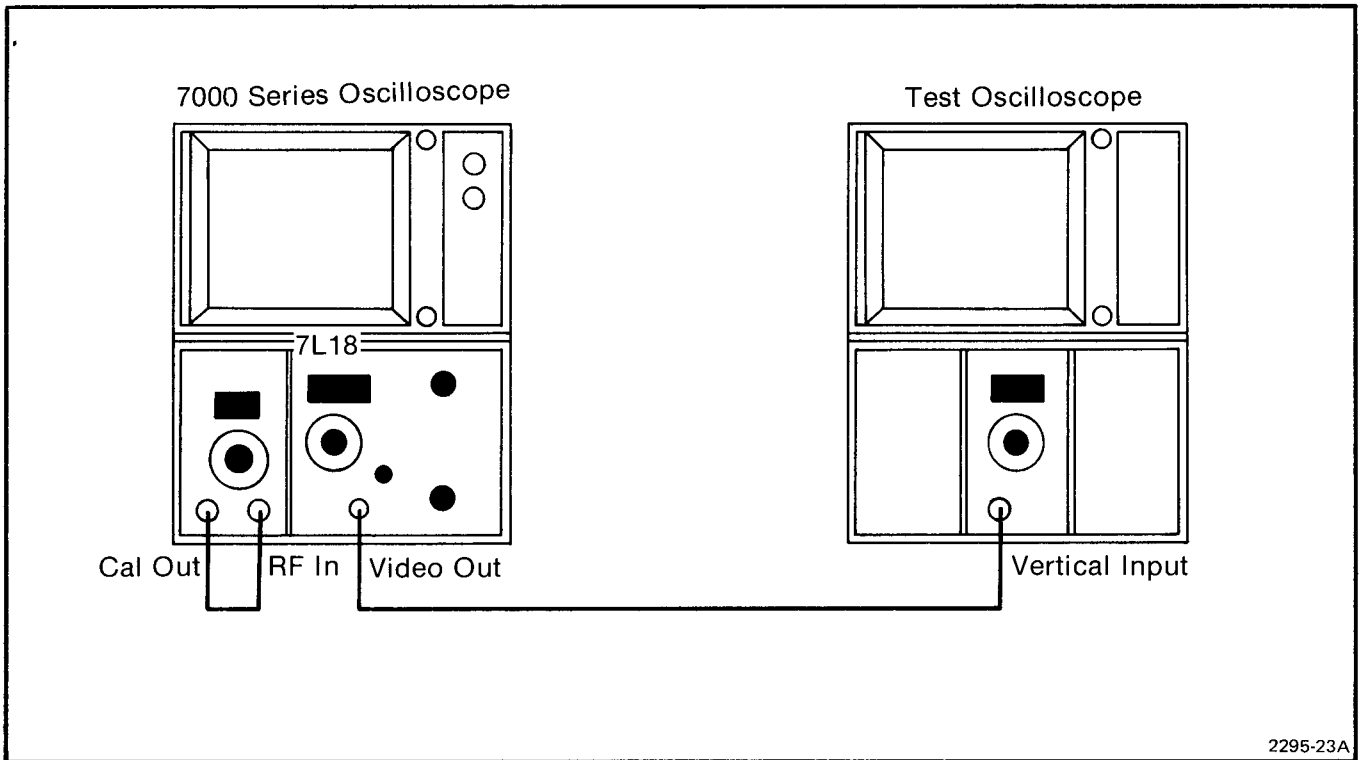

Fig. 4-15. Video Output Level Test Setup.
a. Connect the test setup as shown in Fig. 4-15. Apply the VIDEO OUT signal of the 7L18 to the input of a dc-coupled test oscilloscope with sensitivity set to 1 V/div. Set the 7L18 Display Mode to LOG 2 dB/DIV, REFERENCE LEVEL to  $-20\text{ dBm}$ , TIME/DIV to AUTO, FREQ SPAN/DIV to 100 kHz, and RESOLUTION BANDWIDTH to 300 kHz.